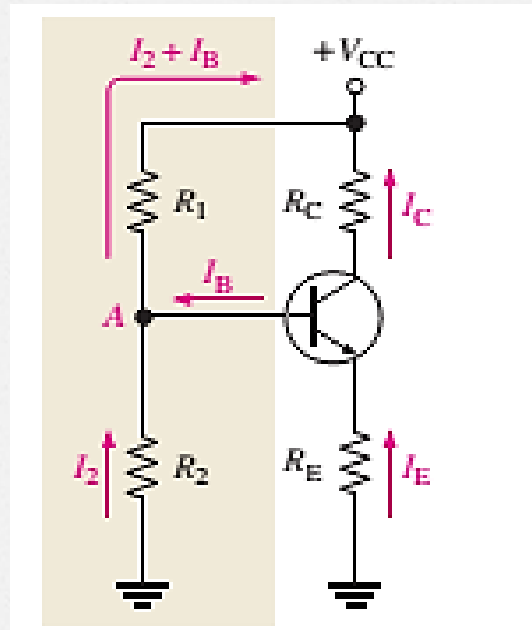

Figure 16: Voltage-divider bias.
- A **DC bias voltage** at the base of the transistor can be developed by a resistive voltage divider that consists of R_1 and R_2 , as in Figure 16.